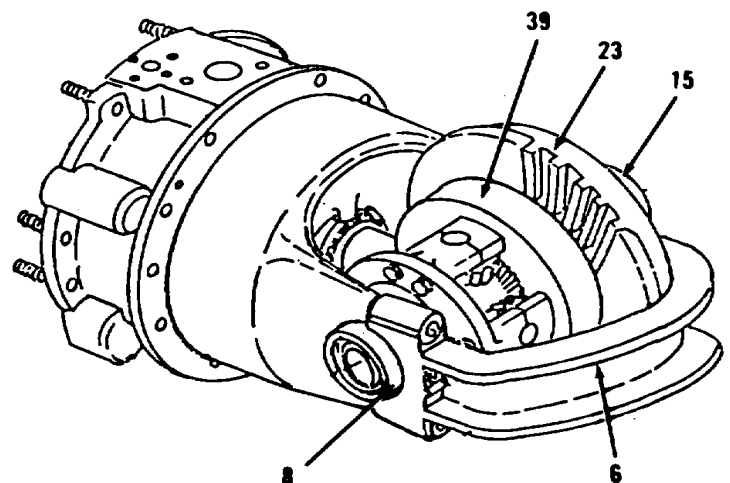

Figure 14-135.
6. Position differential assembly (Figure 14-135).
7. Attach dial scale indicator on cap (6) so indicator contacts any tooth on gear (39). Turn gear and measure backlash, which should be 0.005 to 0.012 inch.
8. Using spanner wrench, adjust nut (23) to obtain 0.005 to 0.012 inch backlash. Nut (8) should be kept finger tight against top bearing during adjustment procedure.
9. Loosen nut (8) and tighten by hand to remove end play.
10. While tightening nut (8) 1 to 1-1/2 notches, use dial scale indicator and measure change in dimension from end of housing (15) to cap (6). Dimension must change by 0.003 to 0.007 inch.